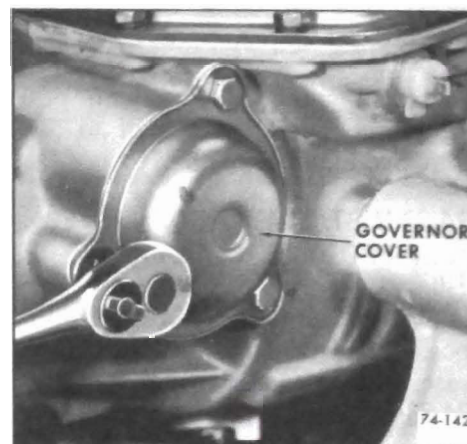

Figure 74-346
2. Install governor gasket and cover to case. Torque bolts to 8-12 lb.ft. See Figure 74-346.